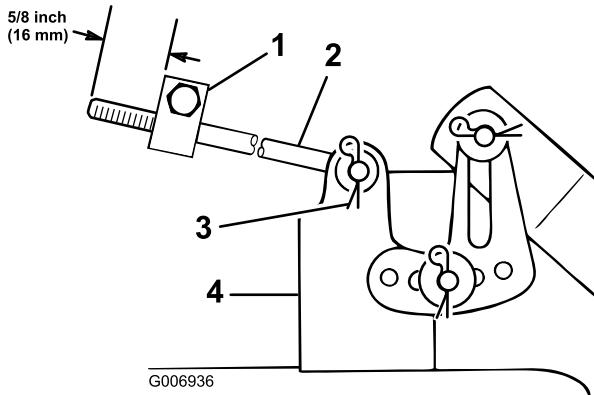

Figure 48
6. Measure the length of the rod extending out of the front of the adjusting block on the sides of the chassis (Figure 48). If the rod length is not $5/8$ inch (16 mm), remove the hairpin cotter and washer from the end of the rod (Figure 48) and turn the rod until it extends out $5/8$ inch (16 mm).